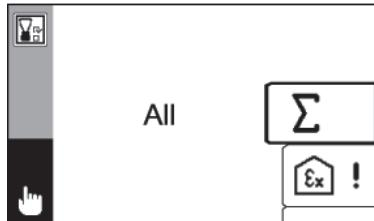

Fig. 11: Inserted device detected (here: **Manual** operating mode, **Device inspection** menu)
- The **device inspection** menu (fig. 11) will appear as soon as the test set detects the device.